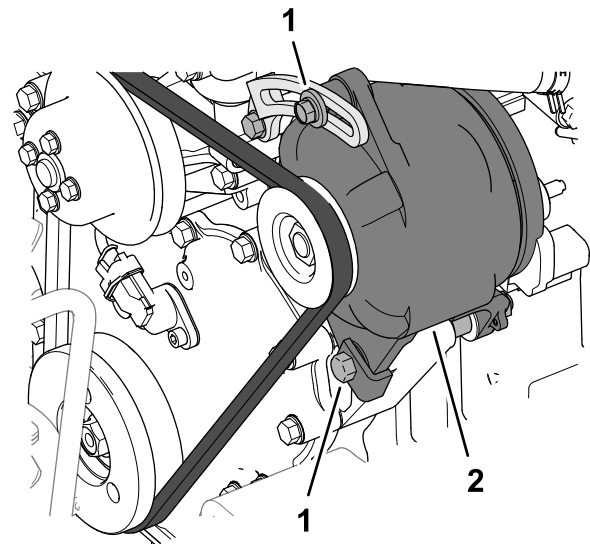

Figure 103
5. If belt deflection is more than or less than 10 mm (3/8 inch), loosen the alternator mounting bolts (Figure 103).